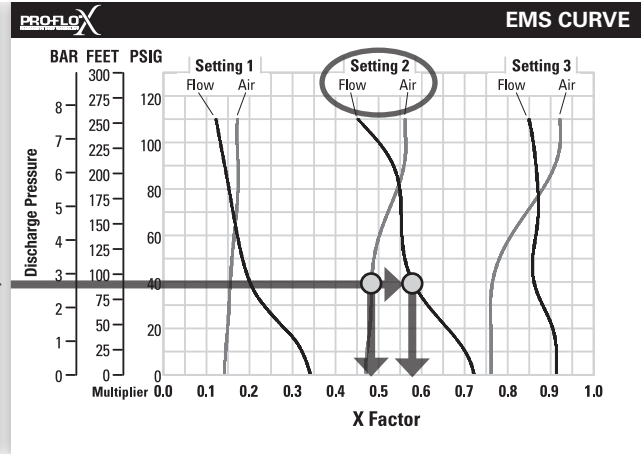

Figure 2
Step 2: Determining flow and air X Factors. Locate your discharge pressure [2.8 bar (40 psig)] on the vertical axis of the EMS curve (Figure 2). Follow along the 2.8 bar (40 psig) horizontal line until intersecting both flow and air curves for your desired EMS setting (in this case, setting 2). Mark the points where the EMS curves intersect the horizontal discharge pressure line. After locating your EMS points on the